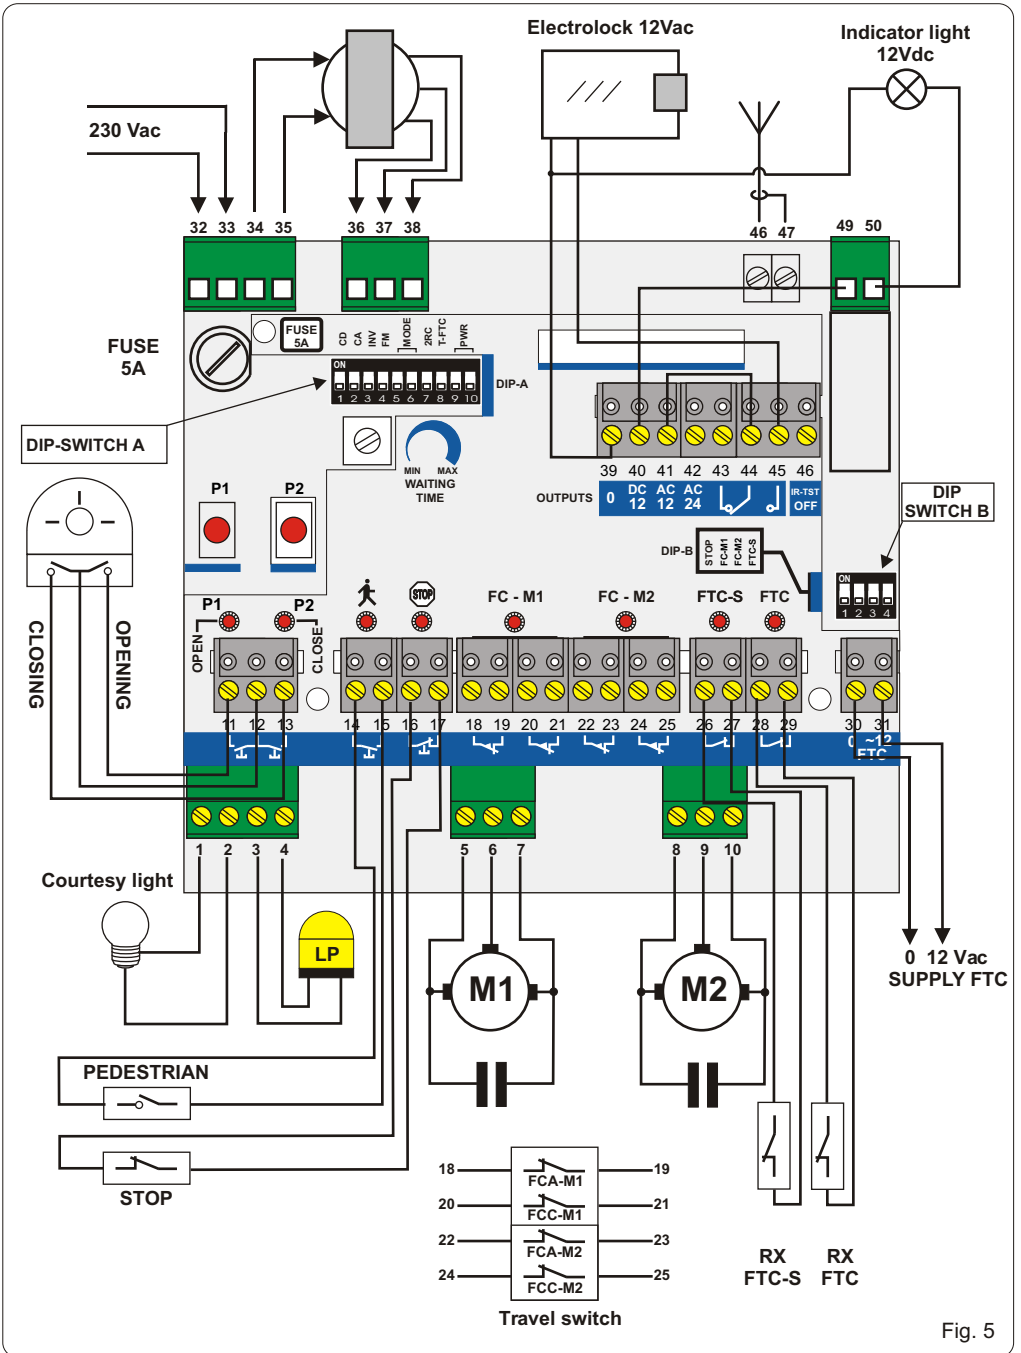

Fig. 5
- 7) Make the connections with reference to Fig. 5 and to Tab. 2.